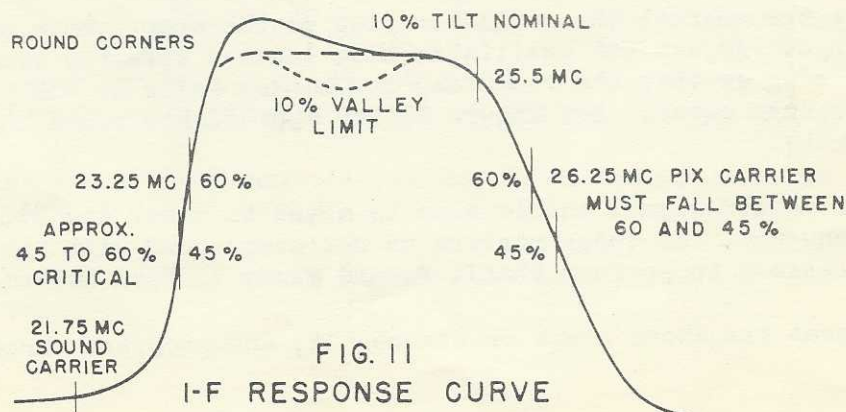

FIG. 11
9. Observing band pass response on the oscilloscope, retouch the I. F. transformers to obtain a response curve similar to that shown in Figure 11. The converter coil and 1st I. F. transformer will correct the low frequency side of the curve and the 2nd and 3rd I. F. transformers will correct the high frequency side.
6. Set the channel 13 oscillator slug to the approximate center of its range. Adjust the oscillator slug located directly above the channel 13 slug so that the video carrier marker falls at 50% point of the response curve. See Figure 11 for approximate curve shape and marker limits.
Note: The marker signal should also be moved to check the 21.75 sound carrier frequency. If these markers do not correspond with Figure 11 it may be necessary to perform the I. F. and Mixer Output Alignment above.